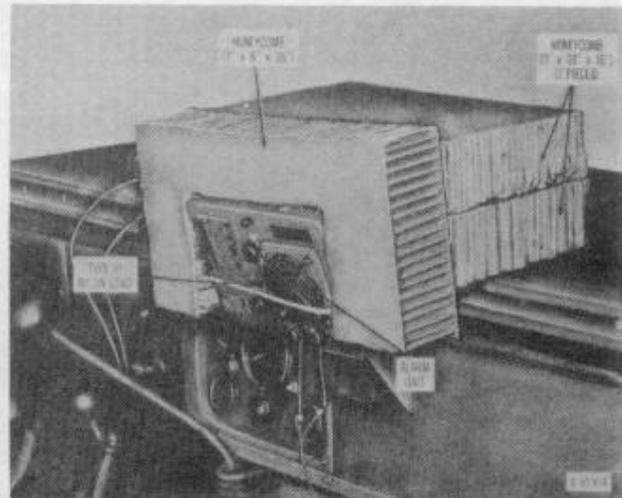

Figure 7-1. Alarm unit secured.
a. Securing Alarm Unit. Safety the alarm unit with one turn of type III nylon cord, making the tie around the alarm unit and the bracket (fig 7-1). Position two 3- by 10- by 16-inch pieces of honeycomb directly forward of the alarm unit as shown in figure 7-1. Make a cutout in a 3- by 8- by 16-inch piece of honeycomb and position over the alarm unit (fig 7-1). Secure honeycomb to alarm unit using type III nylon cord.